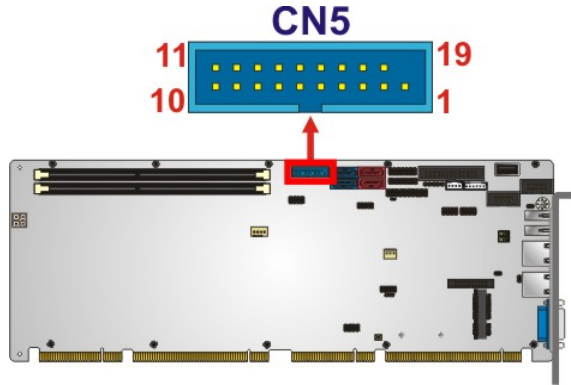

Figure 3-29: USB 3.1 Gen 1 Connector Location
- CN Location:** See **Figure 3-29**